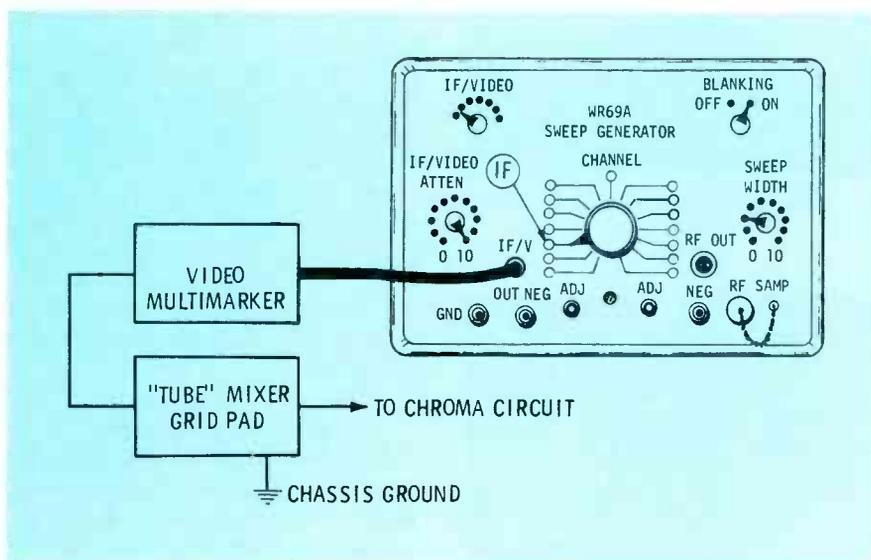

Fig. 15 Prepare the sweep generator as shown here.
- Prepare the scope as detailed in step 2. The marker generator is not used in this step. Prepare the sweep generator as shown in Fig. 15, with the IF/video output going to an RCA Model WG295C video multimarker. The output of the multimarker is through the tube-type mixer-grid pad.